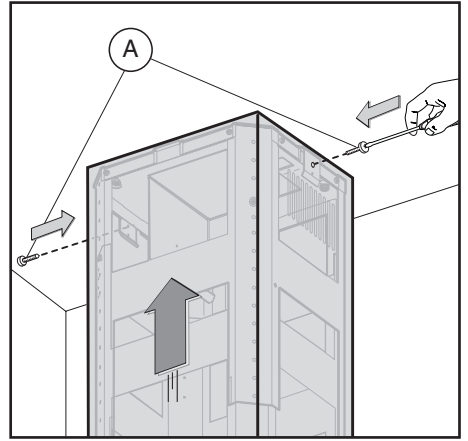
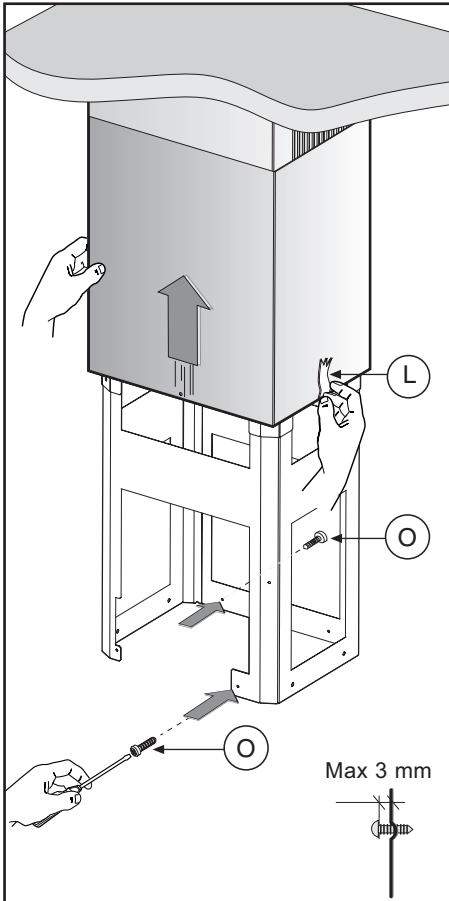

Fig.7
Fig.8
- Take the upper chimney piece and fix it to the structure using the 2 screws **A** (**Fig.7**). Join the lower chimney piece with the upper one and fix it carefully using adhesive tape **L** (**Fig.8**).
- Screw the 2 screws **O**, max 3 mm (**Fig.8**).